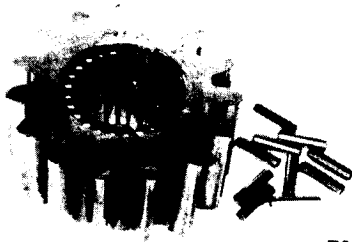

FIG. 133
Coat inside of planet pinion with chassis grease to retain pinion needle rollers. Each pinion contains a double row of needle rollers with a spacer between rows. Install one full row of rollers, roller spacer, and another full row of rollers in each pinion (Fig. 133).
16. Apply coat of Permatex No. 2 on mounting flange of planet spider. Position planet spider on axle so that planetary gears engage ring gear and sun gear (Fig. 133).
17. Install one planet assembly with arrow down and oil filler hole in hub on top. Torque planet bolts (Ref. Fig. 133 and 134).